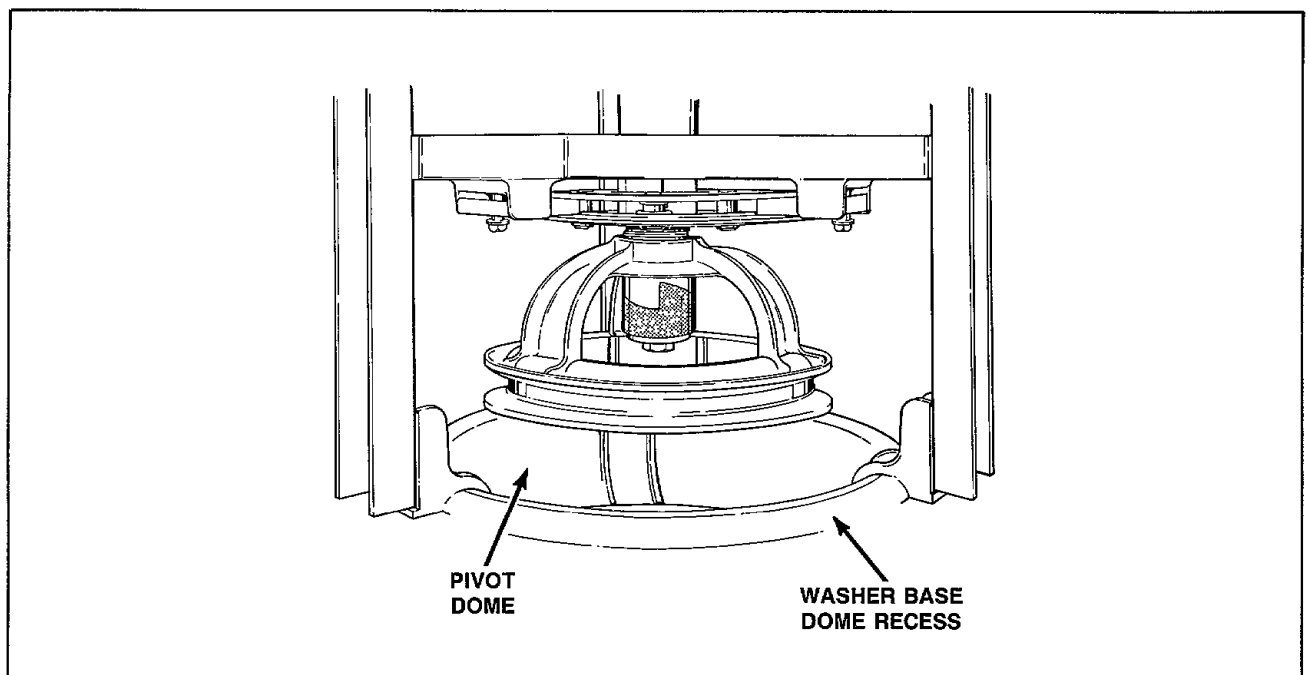

Figure 55
- Carefully place the tub module back into washer making sure the pivot dome is positioned properly in dome recess of the washer base, *Figure 55*.